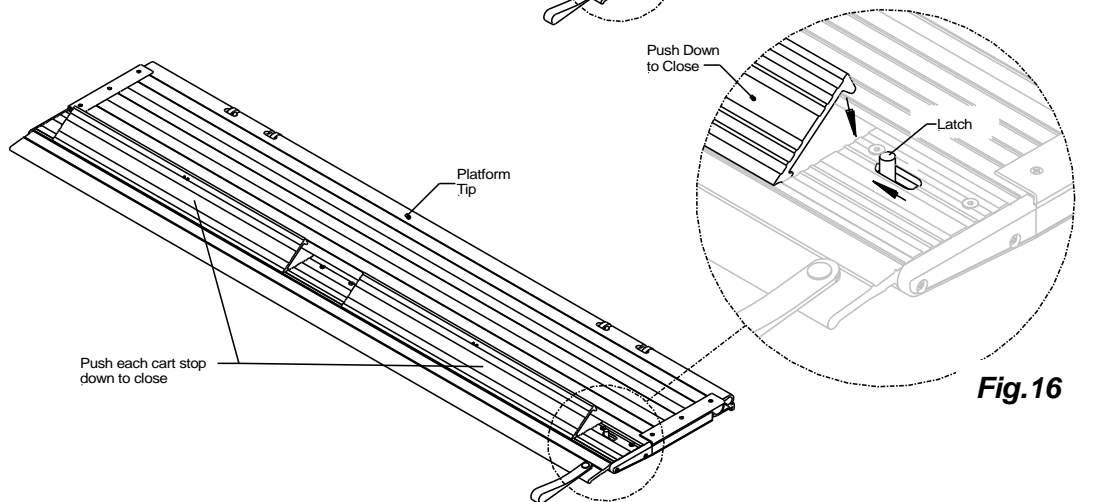

Fig. 16
2. To close the cart stops, push the cart stop latch inward towards the street side, **Fig. 16**. After the latch is in place close each cart stop by pushing each stop down.